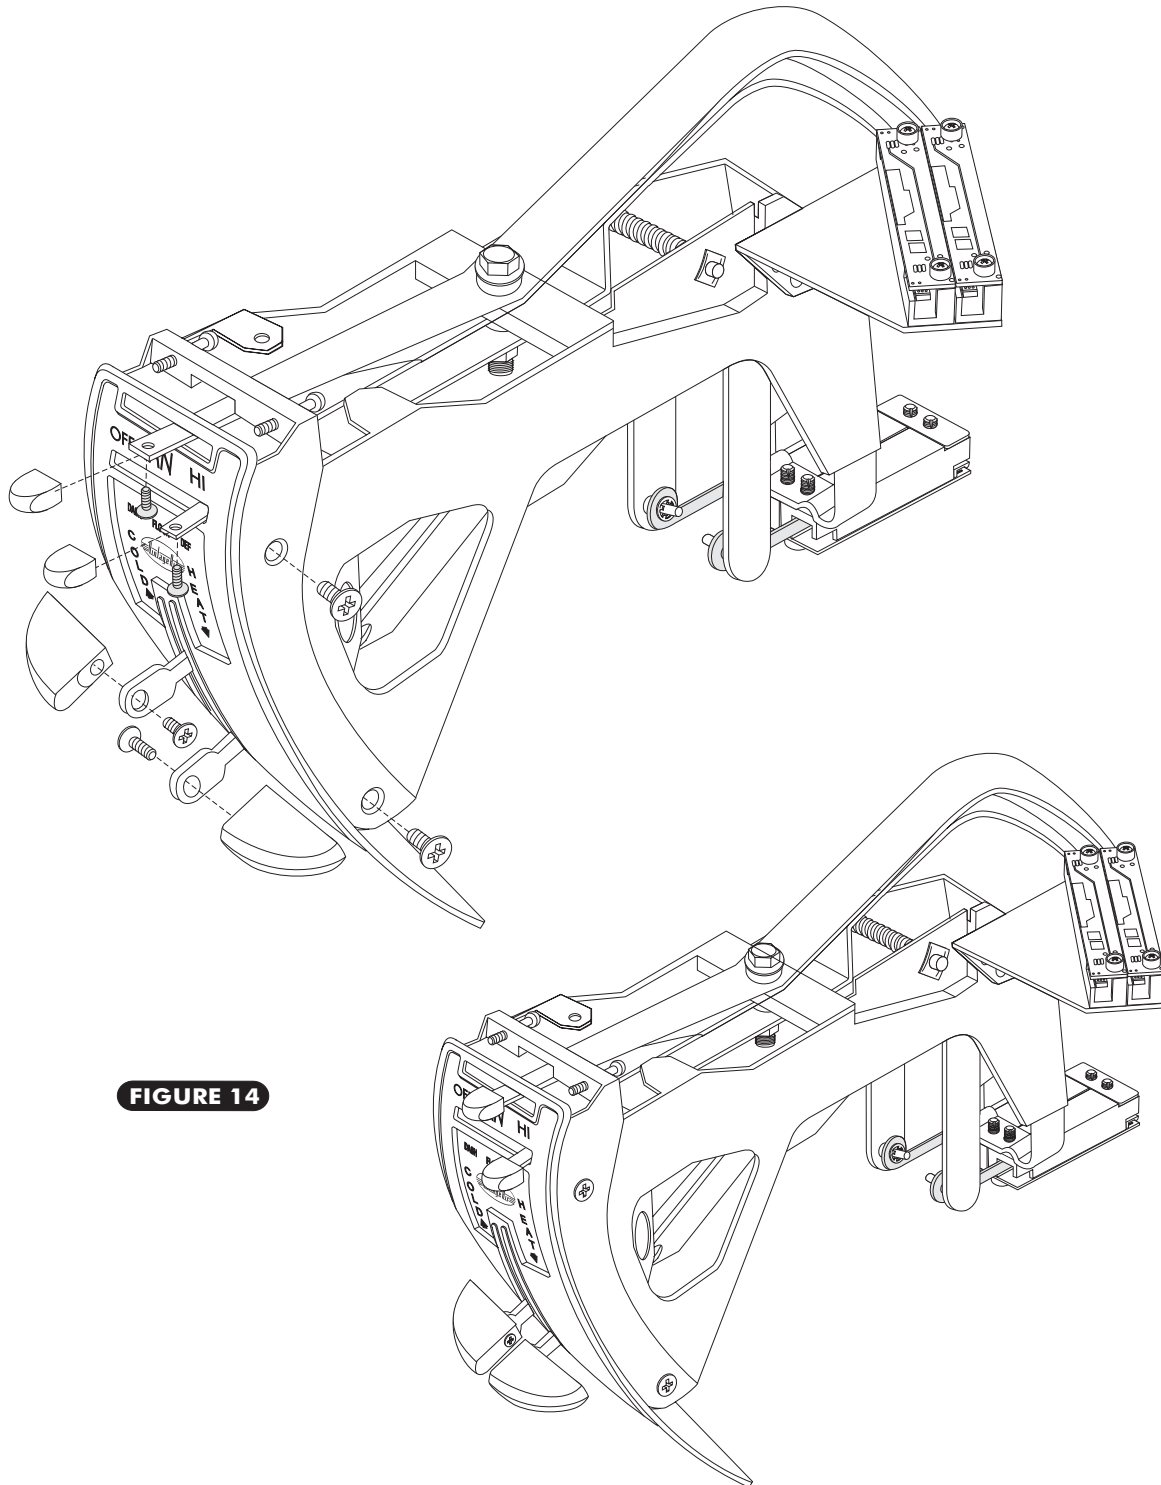

FIGURE 14
□ RE-INSTALL OEM KNOBS AS SHOWN IN FIGURE 14 BELOW.